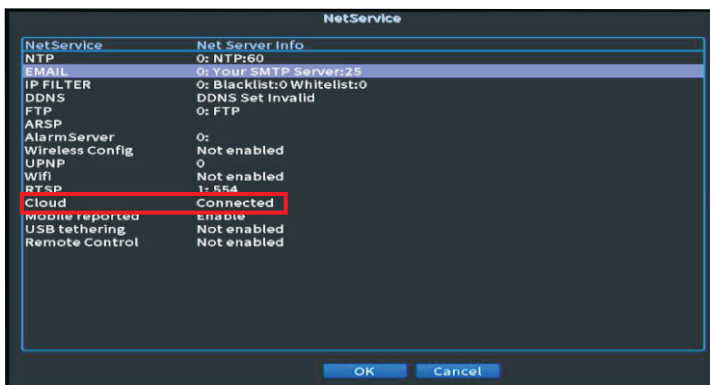

Figure 16. Cloud connection is connected.
- Go to **Main Menu>Network>NetService**. Make sure that the “Cloud” connection is connected as shown in Figure 16